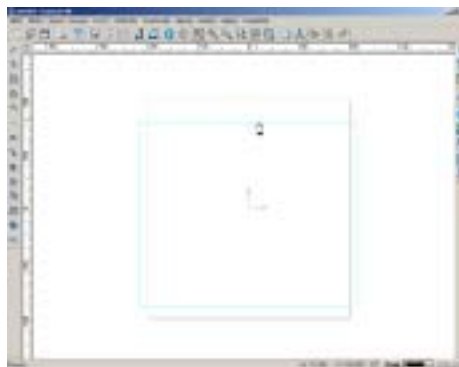

Fig. 3-46
4. When the shape is changed into a dotted blue line, click the left mouse button. (Fig. 3-46)